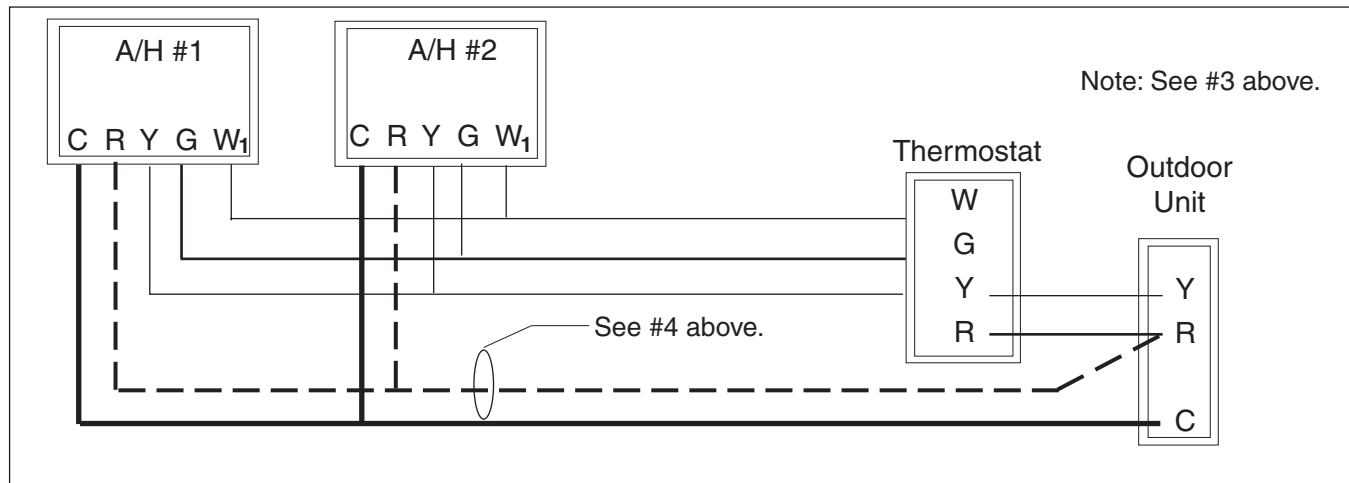

Figure 1. Low Voltage Wiring
2. Low voltage wiring should be connected as shown in Figure 1.
4. For 2 - 5 Ton (B5 style) air handlers equipped with a printed circuit board control, 24V (R) must be connected to both indoor units.